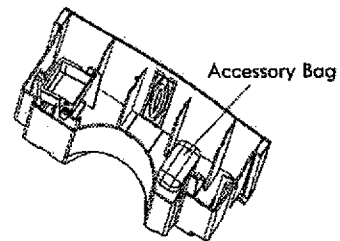

Fig. 3
3. Locate and remove the accessory bag containing the 4 casters (Fig. 3)